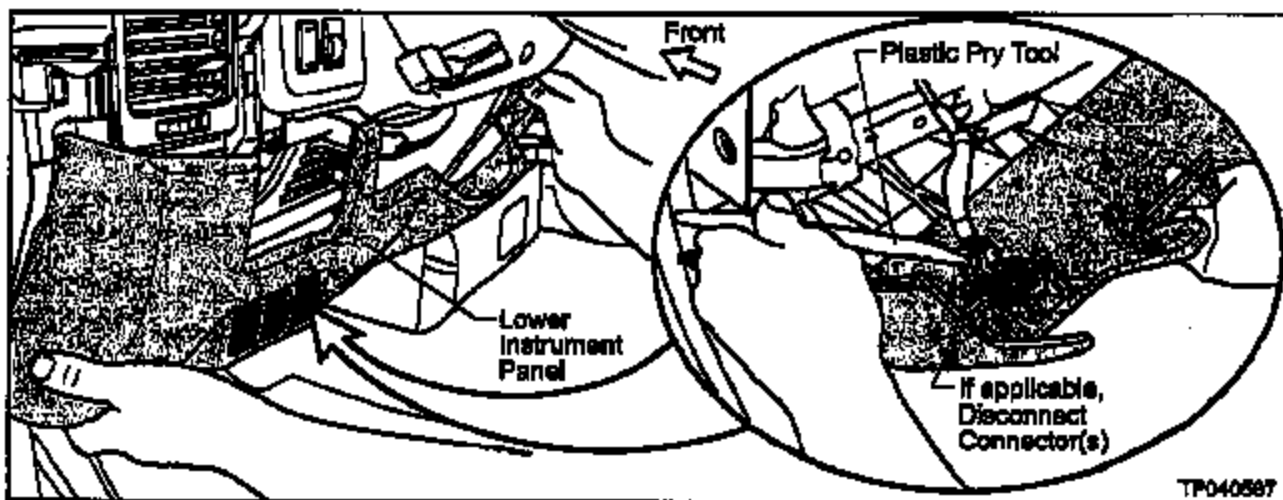

Figure 2
2. Remove two Screws and remove the Lower Instrument Panel (see Figure 2).